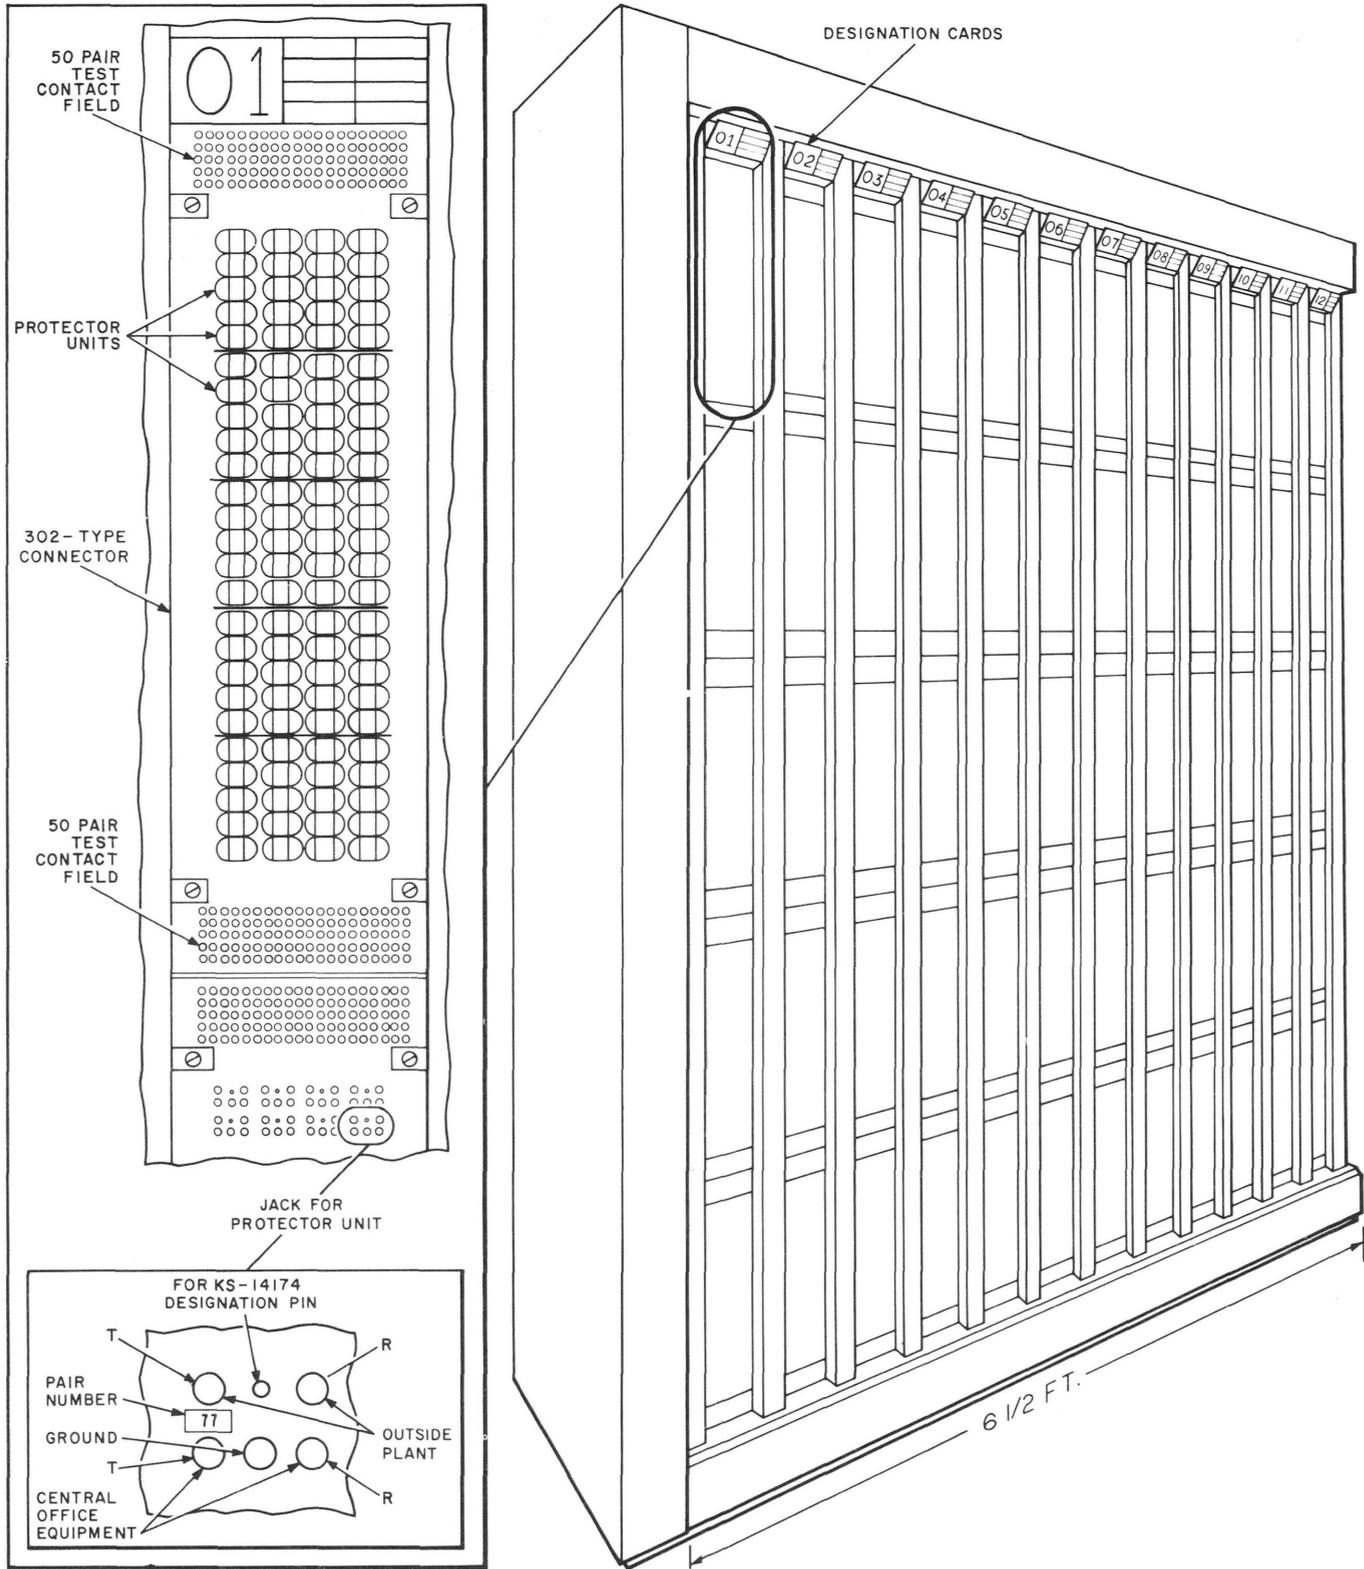
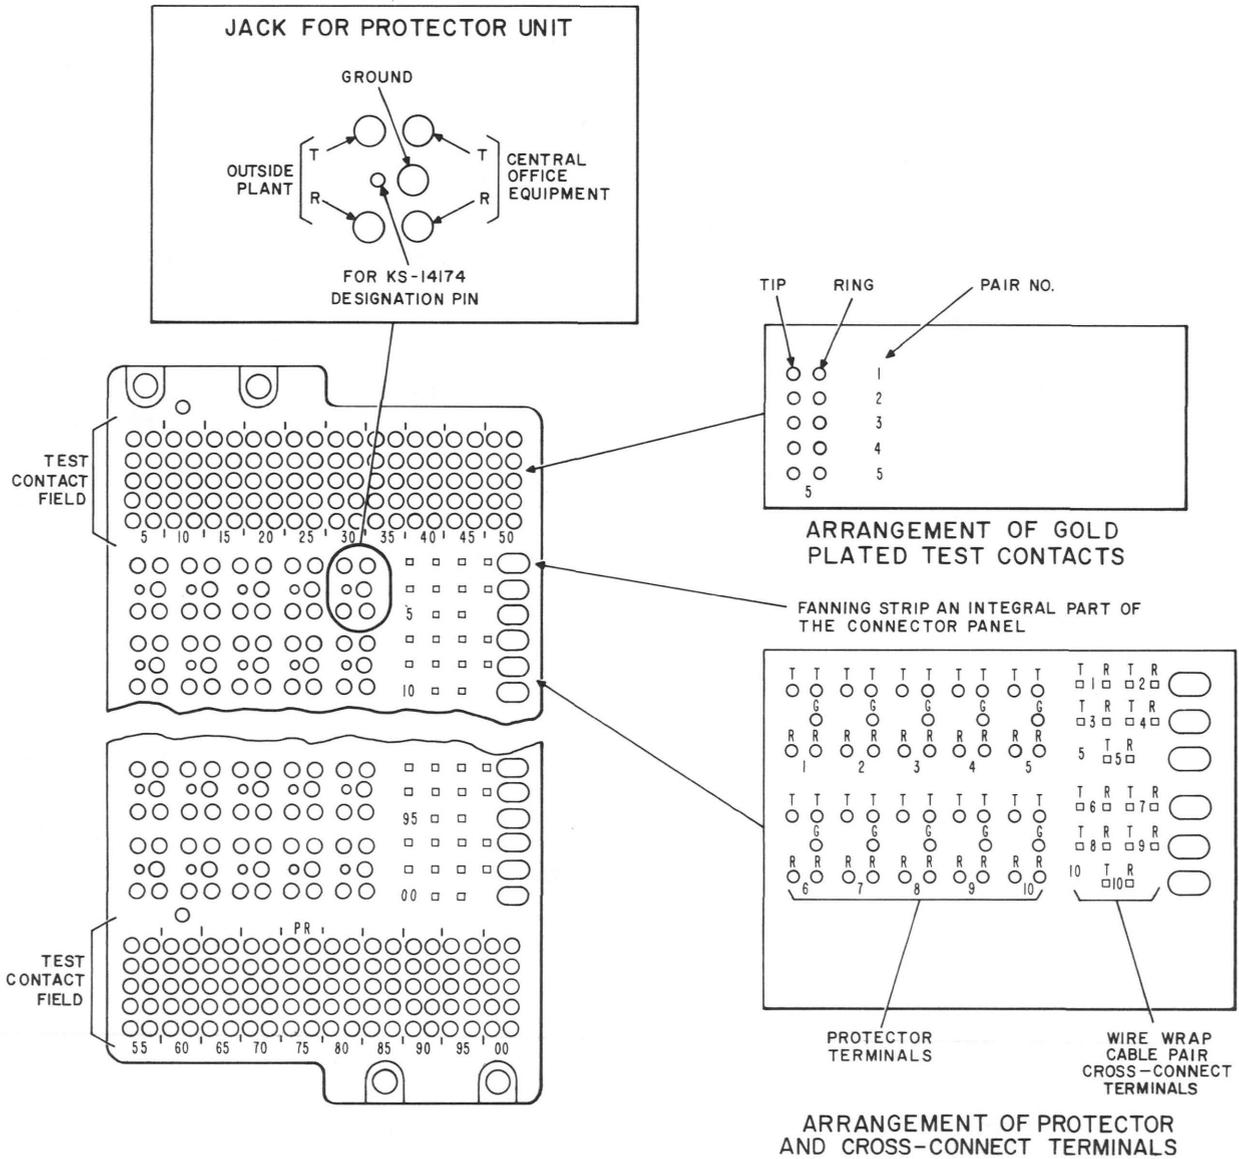
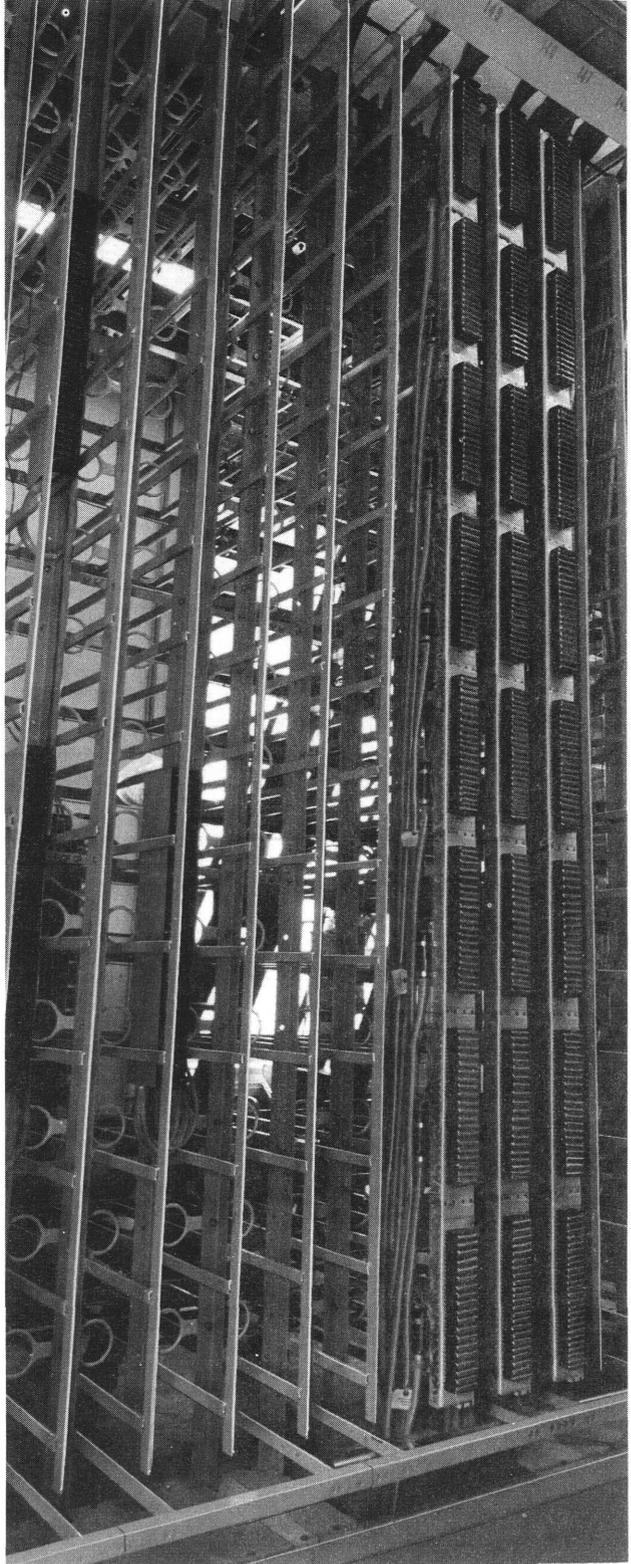

Fig. 1—302-Type Connector Installed in a Modular Protector Frame
Fig. 2—303-Type Connector Panel
Fig. 4—303-Type Connectors Installed on a Conventional Main Distributing Frame
2.01 The 302-type connector and its installation in a modular protector frame are shown in Fig. 1. The 303-type connector is shown in Fig. 2 and 3. Fig. 4 shows 303-type connectors installed on a conventional main distributing frame.
2.02 Above each protector frame vertical (Fig. 1) are three designation cards indicating the vertical section number, the cable numbers supplying each of the 302-type connectors in the vertical section, and the hundreds group pair identification number for each of the 302-type connectors.
2.03 The pair number in the hundreds group for each jack on the 302-type connector is molded into the connector. Pair designation plates (Fig. 1) between every five rows of jacks are marked top and bottom to indicate the tens and units number of the adjacent jack or protector unit. Intermediate numbers are then easily obtained by their relative location to the identification plates.